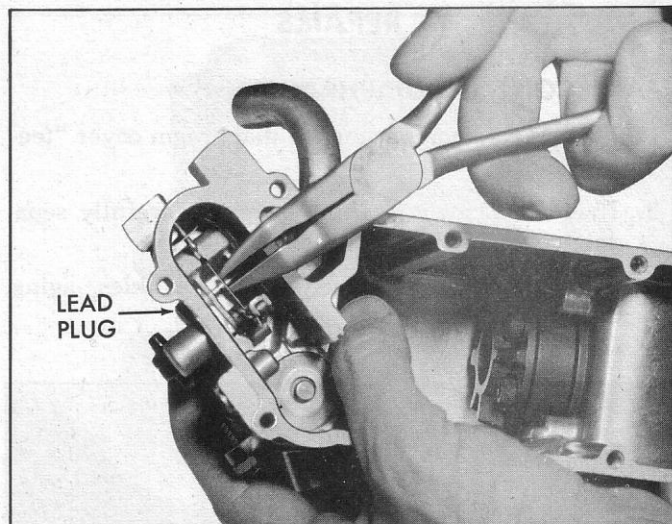

Fig. 45—Removing Control Arm Axle Shaft
7. Rotate control arm and counterweights on axle, press axle from meter body (fig. 45), remove control arm and counterweight assembly from fuel meter body.